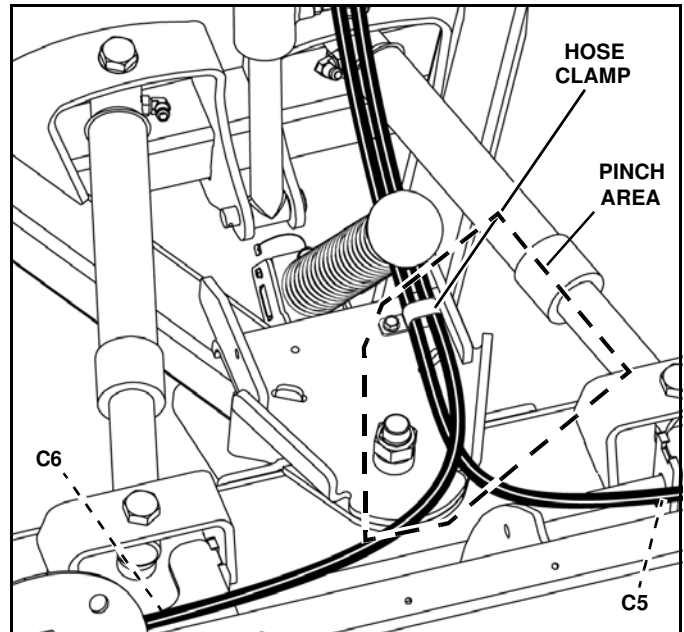

Figure 1-19
23. Connect hose from C5 on the valve housing to the left (DS) wing cylinder and from C6 to the right (PS) wing cylinder. (See Figure 1-19).
24. To prevent hoses from pinching between the left swing cylinder and A-frame when stacking, install a hose clamp (p/n 96113011) on the wing cylinder hose set and secure to the A-frame with a self-tapping screw (p/n 98100386) in the location shown. Ensure that hoses are free of pinching and binding through full vertical range of A-Frame movement. (See Figure 1-19).